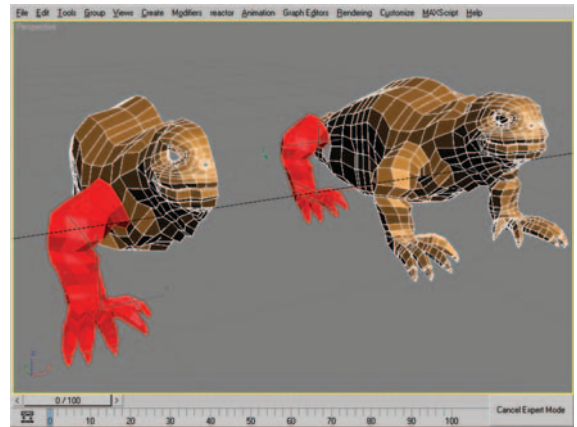

Figure 9.77 Polygons that compose the leg selected (left) and the newly cloned leg mesh (right).
40. Select the polygons that make up the front leg; be sure you have all of the polygons up to the point at which they meet the iguana's body (Figure 9.77, left). Shift-drag the leg back to the proximity of the rear leg opening created in the previous step (Figure 9.77, right; I recommend selecting Object when cloning this part).